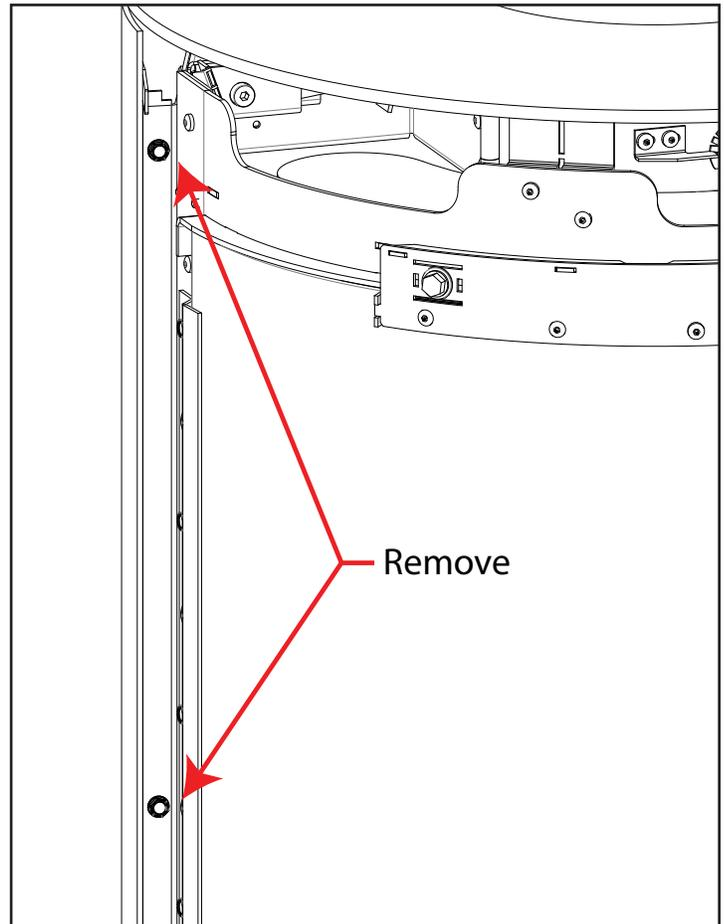
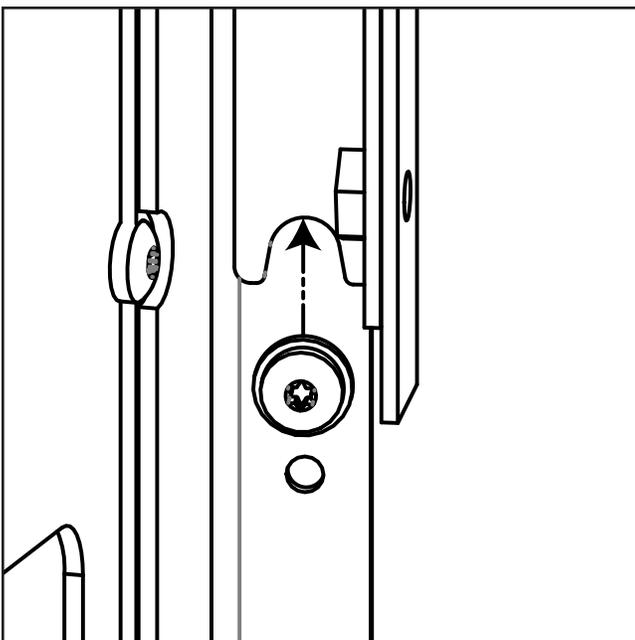

Figure 21: Rear Chassis Detachment
Figure 22: Rear Chassis Spacers
3. Position yourself in a way that allows you to support the chassis once detached. Remove the four mounting screws using a 5/16" socket (see Figure 21). There are two spacers at the bottom on the backside that support the rear chassis weight (see Figure 22). The chassis will pivot backwards once fully detached.